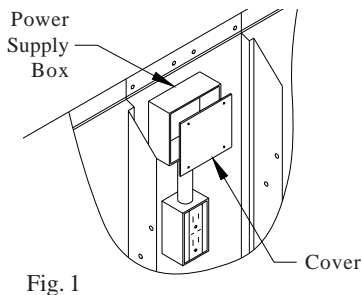

Fig. 1
• **Power Supply box.** The power supply box is located in the upper inside of the divider channel. Remove the cover to access wiring. (Fig. 1). Connect wiring in box to power supply wiring as per wiring diagrams.